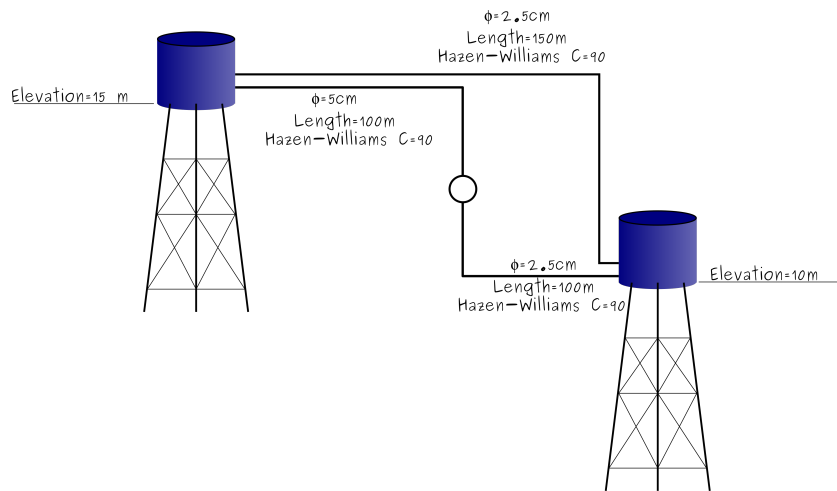

Figure 5: Pipes in parallel
Now we would like to add a parallel pipe connecting Tank (1) to Tank (2). We will assume this pipe to have a length of 150 m and a diameter of 2.5cm (Figure 5).